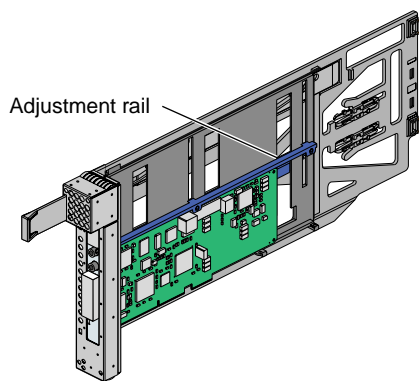

Figure 6-22 Moving Carrier Guide Bar to Secure Half-height PCI Card
- d. Move the carrier guide bar (adjustment rail) so that it holds the card firmly in place (see Figure 6-22).